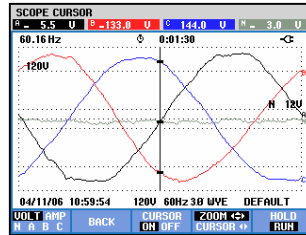

Figure 19-3. Waveform display with cursor and zoom on
- Press F4 to assign the arrow keys to Zoom operation as shown in Figure 19.3. The left/right arrow keys can be used now to stretch or shrink the waveforms horizontally. The up/down arrow keys do this in vertical direction. If the Cursor is on, horizontal zoom operates symmetrically around the Cursor. When off, horizontal zoom operates around the screen center. Vertical zoom operates around the screen center.